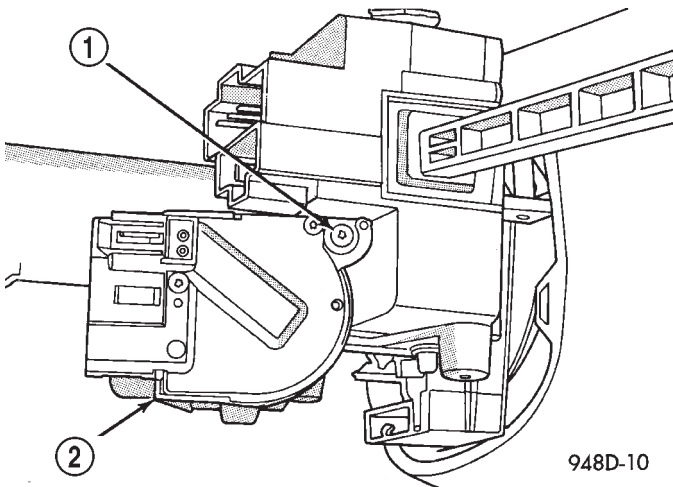
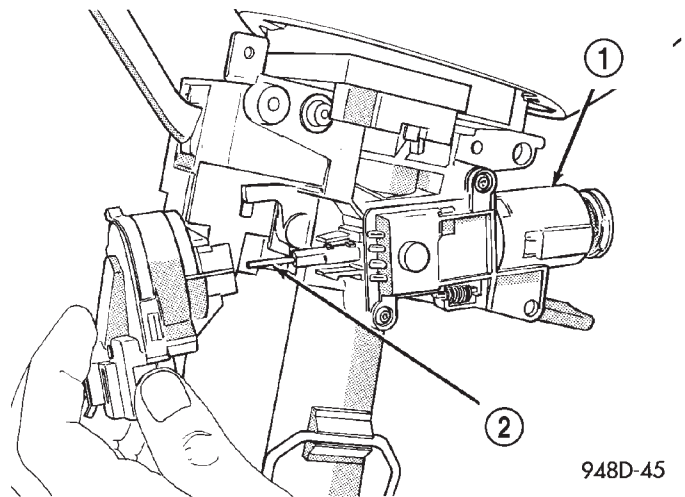

Fig. 19 Ignition Switch Mounting Screw
Fig. 21 Ignition Switch Installation
(4) Disconnect electrical connectors from ignition switch.
(5) Remove ignition switch mounting screw (Fig. 19) with a #10 Torx® bit.
(1) Ensure the ignition switch is in the RUN position and the actuator shaft in the lock housing is in the RUN position.
(2) Carefully install the ignition switch. The switch will snap over the retaining tabs (Fig. 21). Install mounting screw (Fig. 19).